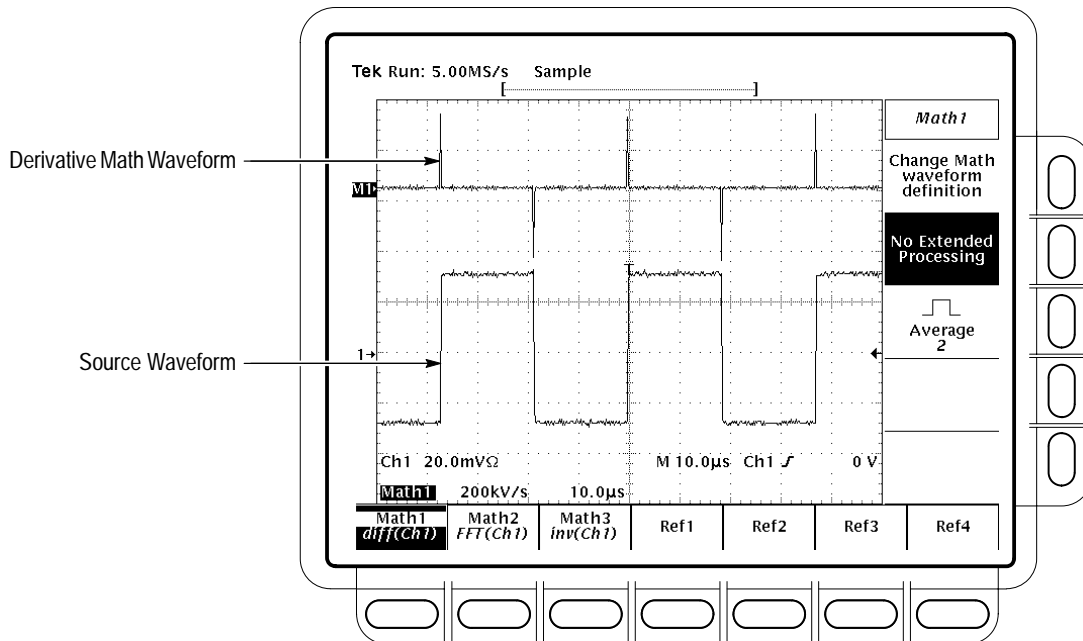

Figure 3–105: Derivative Math Waveform
3. Press **MORE** → **Math1**, **Math2**, or **Math3** (main) → **Change Math Definition** (side) → **Single Wfm Math** (main). (See Figure 3–105).
4. Select up to four measurements in the side menu. (See Figure 3–106.)
- Expand the waveform horizontally on screen. (Select the source channel and increase the horizontal scale using the horizontal **SCALE** knob.) For instance, if you display the source waveform illustrated in Figure 3–105 on page 3–230 so its rising and falling edges are displayed over more horizontal divisions, the amplitude of the corresponding derivative pulse will decrease.